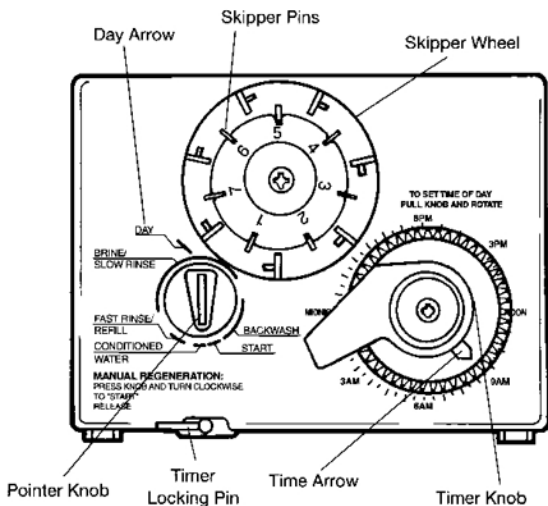

Figure 8
1. Set days of regeneration on skipper wheel (Figure 8).
- Rotate in either direction until the timer arrow points to the actual time of day (Figure 8).
Note: The Timer Locking Pin should always be horizontal (Figure 8) during operation.